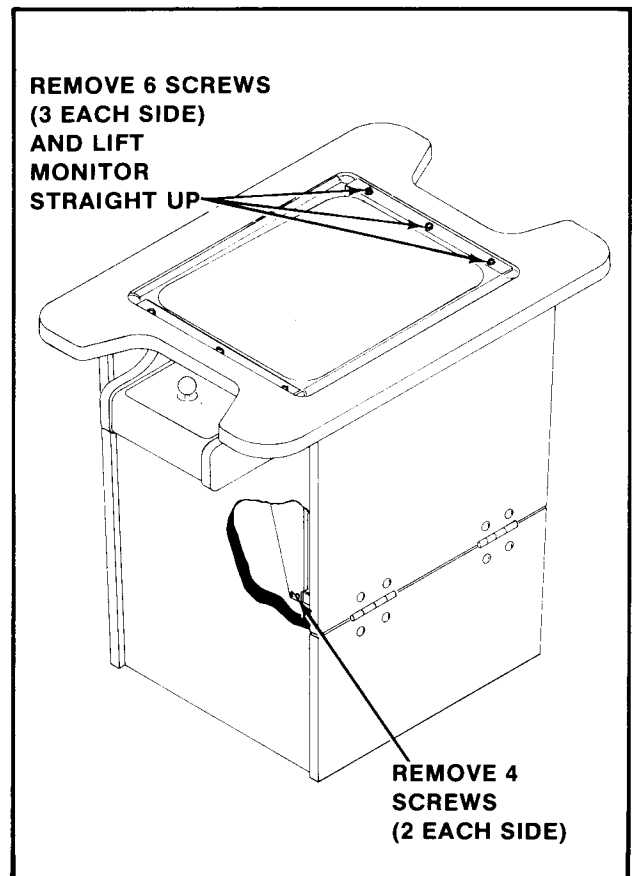

Figure 18 Removing monitor — Cocktail game
### 3. COCKTAIL TABLE MODEL: See Figure 18.
- Remove the screws holding the T.V. monitor chassis to the "L" by the door hinge(s). See Figure 18.
- Remove the screws which secure the T.V. monitor mounting brackets to the edges of the slot cut in the table top. See Figure 18.